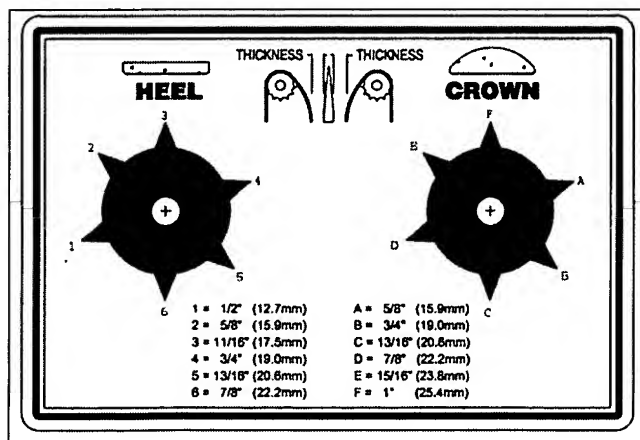

Figure 5. Bun Thickness Adjustment Controls
1. Set the bun adjustment controls (Figure 5) to desired setting.
3. Turn both bun compression control knobs to "6" (Figure 5).